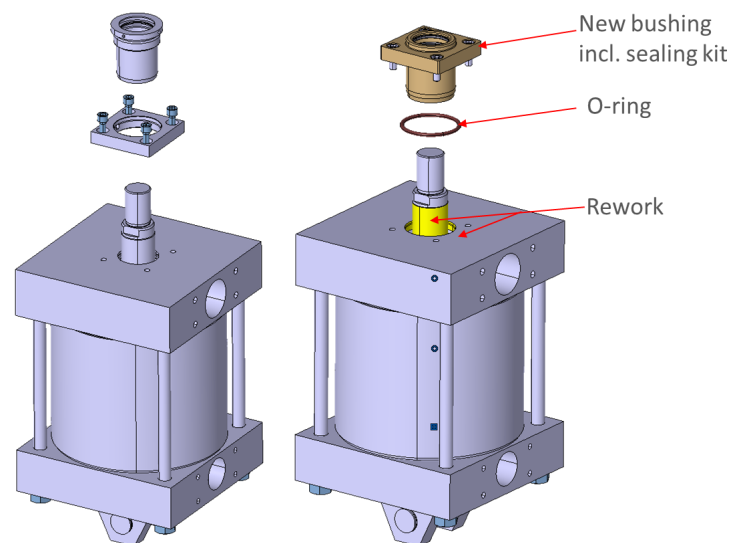

Fig. 2: Original (left) and upgraded (right) servo-cylinder
**Upgrade solution 1** features a more stable guiding and an extended lifetime of the hydraulic cylinder by providing a new actuator bushing with modern sealing kit and a renewed sealing kit for piston (Fig. 2). The actuator upper cover is reworked to enlarge the bore hole, but reworking might be necessary also for the existing piston rod, when significantly worn.